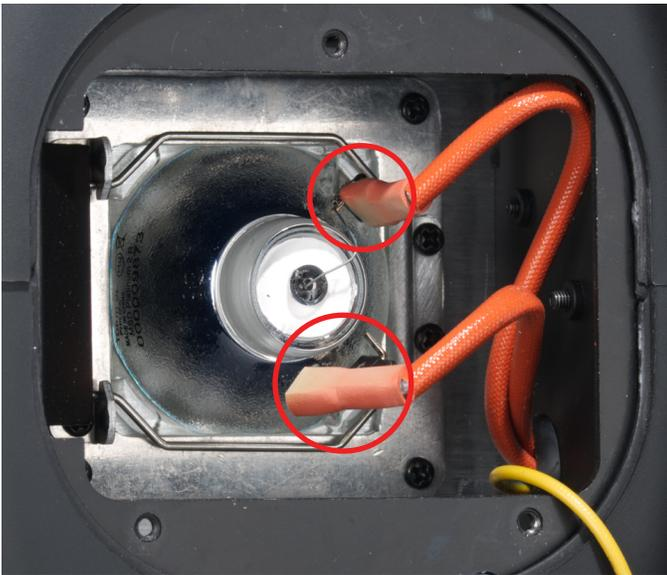

Figure 1
4. Carefully disconnect the two wires connected to the lamp (Figure 1).